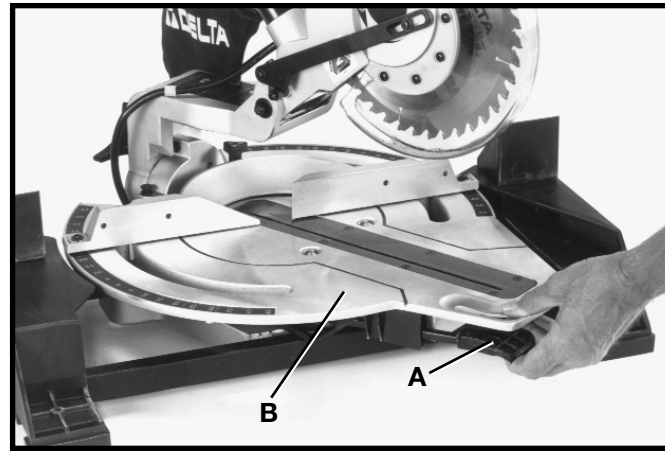

Fig. 22
1. Compress table locking lever (A) Fig. 22, and rotate table (B) to the straight 90 degree cut-off position. Release locking lever (A).